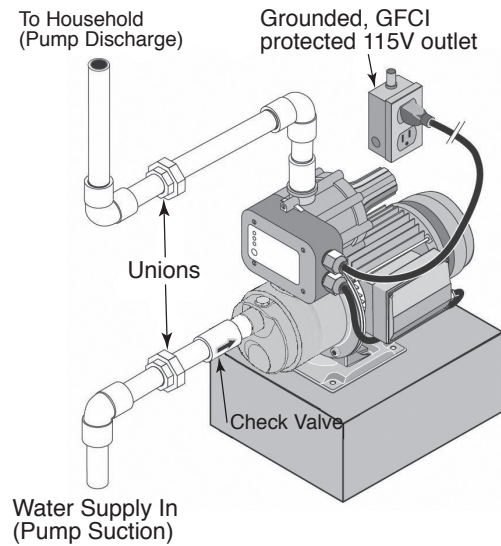

Figure 2: Typical household booster installation. Purchase plumbing fittings separately. Consult code for relief valve/pressure regulator requirements.
9. Install piping from elbows to pump including a union in each line, an elbow in the discharge line, and a check valve in the pump suction line. The arrow on the check valve must point to the pump suction (see Figure 2). If not already in the plumbing system, install a pressure relief valve in the pump discharge line capable of passing the full pump flow at 100 psi (689 kPa). If local code requires installation of a pressure relief valve capable of handling the full pump flow at a pressure less than 100 psi (689 kPa), follow the code requirements. A low pressure safety cutoff switch should also be installed in the discharge line, and may be required by your local codes.
⚠ WARNING Hazardous voltage. Risk of dangerous or fatal electric shock. Plug the pump into a 115 Volt, 60 Cycle, Ground Fault Circuit Interrupter (GFCI) protected grounded outlet only. The pump is equipped with a 3-wire grounded cord and plug. Do not modify or remove the plug. Make sure the outlet meets the National Electric Code or the Canadian Electrical Code, as applicable. To avoid dangerous electrical shock hazard, keep the cord dry at all times. See Figure 2.